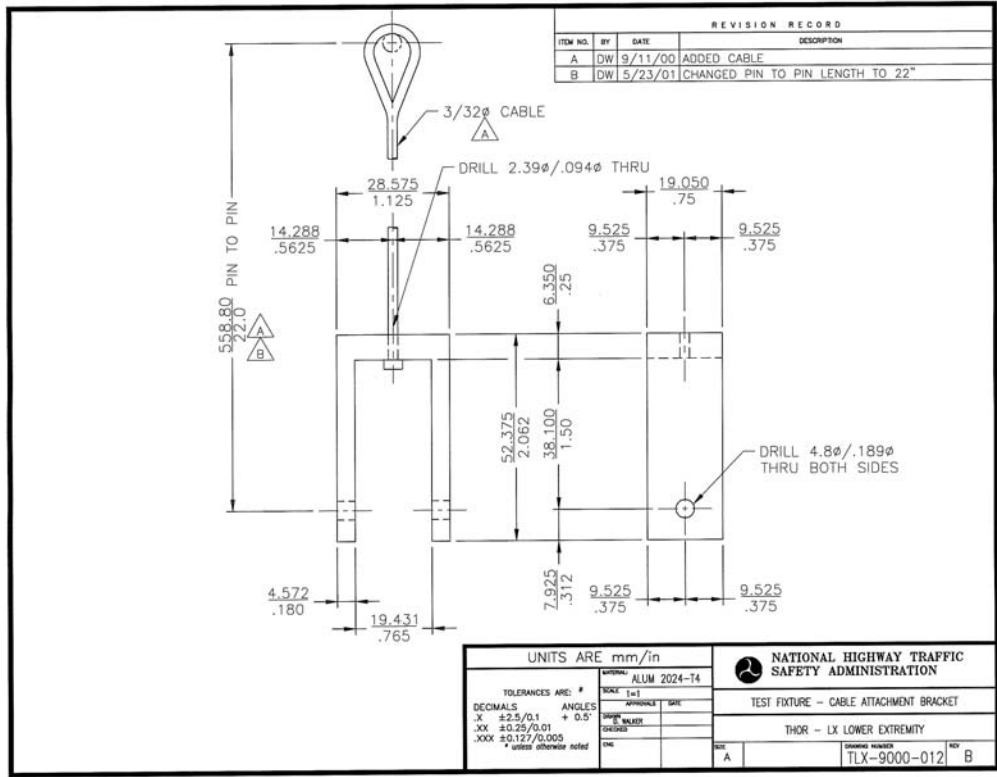

Figure B-7. Cable Attachment Bracket for Quasi-static Tests
- Cable Attachment Bracket (TLX-9000-12, Figure B-7)